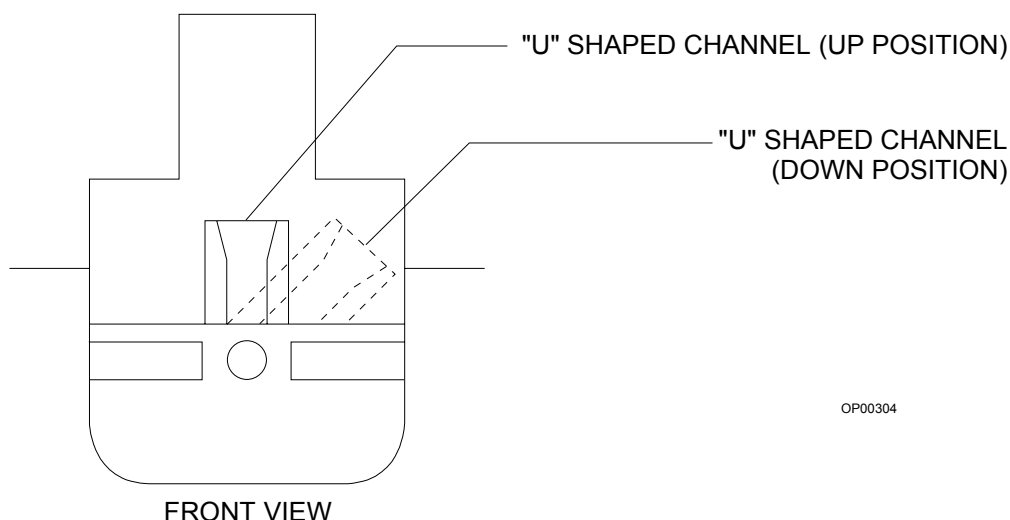

Figure 10-12. Piston Coupling Assembly - “U” Shaped Channel
Note: For correct operation, the “U” shaped channel on the piston coupling assembly should be in the up position when the piston assembly is removed from the ventilator chassis, and should be in the down position when the piston assembly is properly installed in the ventilator chassis. See Figure 10-12.
3. Look through the window in the metal plate behind the piston-cylinder unit and observe the “U” shaped channel. Refer to Figure 10-12. Using the red “T” handled Divan tool or a screwdriver, move the “U” shaped channel back approx. ½ in., and then push it to the right until it snaps out of view to its down position.